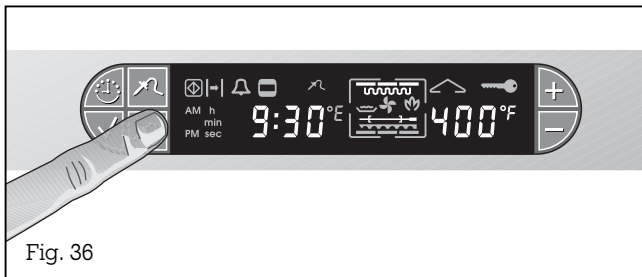

Fig. 36
- Press the key  (Rotary spit) (Fig. 36).